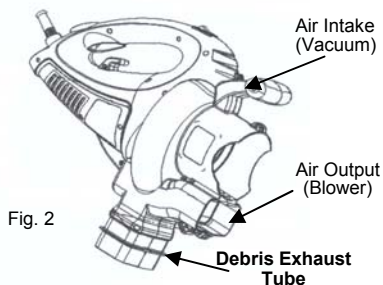

Fig. 2
6. Insert the two (2) self-tapping screws into the holes on either side of the blower/vacuum tube. (Fig. 2)
2. Slide the vacuum bag over the debris exhaust tube on the housing. (Fig. 2)